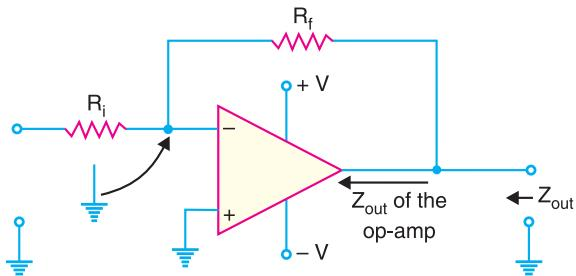

Fig. 25.48
**(ii) Output impedance.** Fig. 25.48 shows the inverting amplifier circuit. You can see from this figure that the output impedance of the inverting amplifier is the parallel combination of  $R_f$  and the output impedance of *OP-amp* itself.